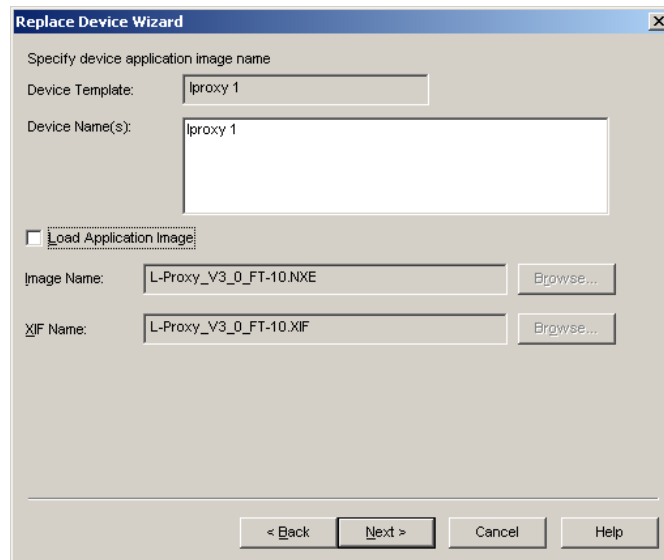

Figure 96: Click Next without loading an application image.
- In the following window shown in Figure 96 click **Next**.